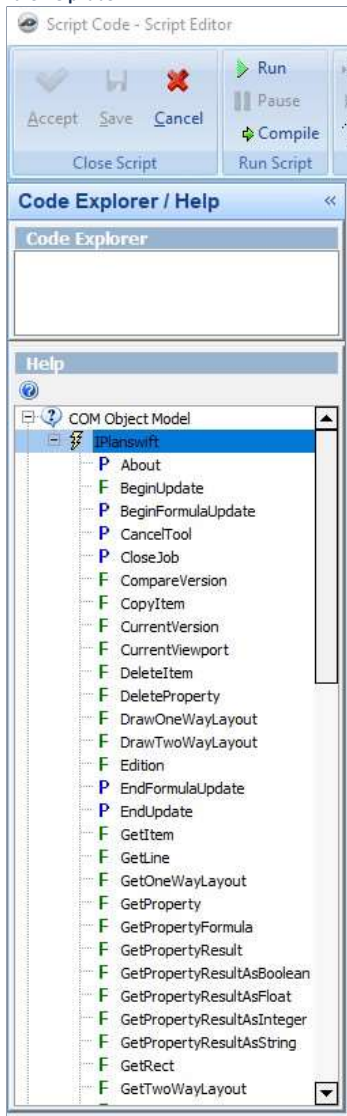

Figure 12
12. The **COM Object Model** selections are now available in the **Help** window (Figure 12). Click on **Current Version**, then click on the circled question mark directly below the **Help** label.